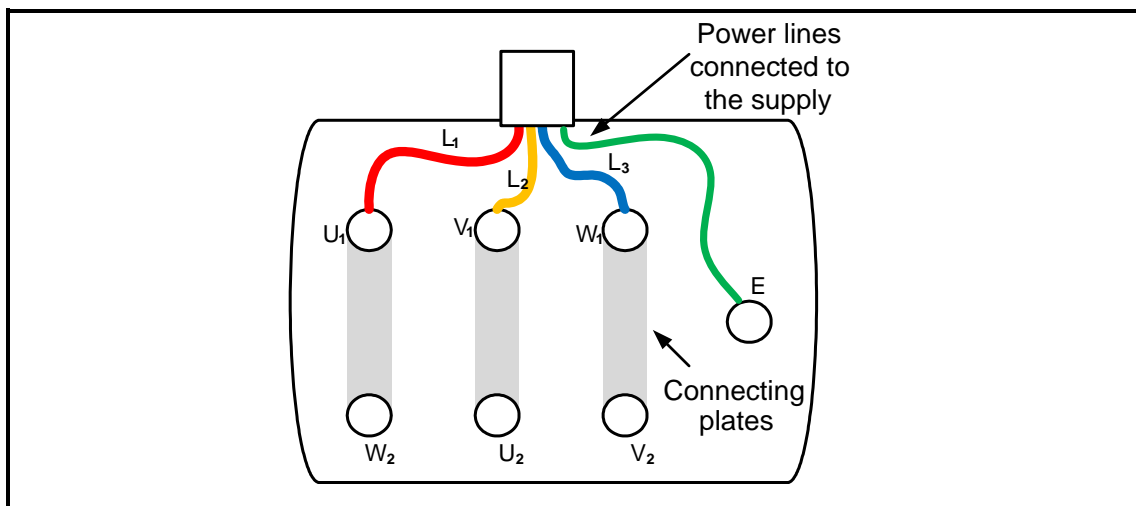

FIGURE 6.2: THREE-PHASE MOTOR CONNECTION
6.2 Refer to FIGURE 6.2 below and answer the questions that follow.
- 6.2.3 Name TWO important procedures to follow before testing the insulation resistance of the motor in FIGURE 6.2. (2)